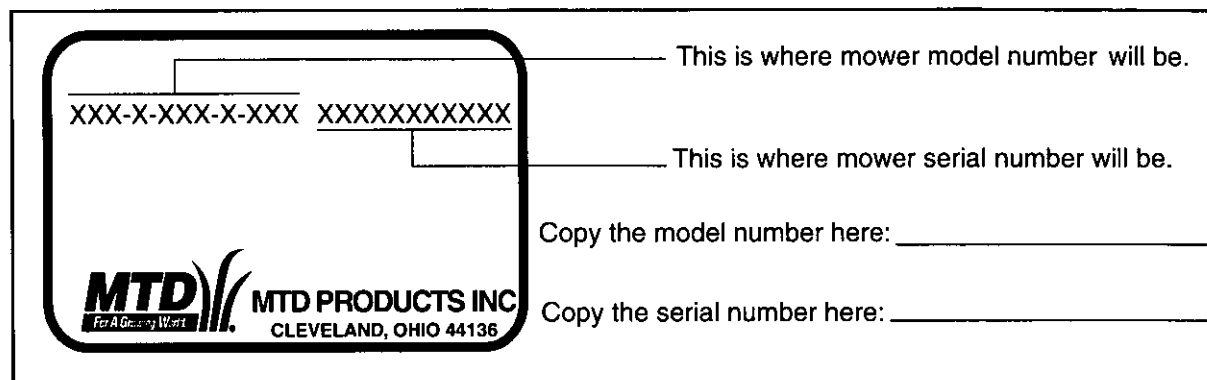

FIGURE 1
- The model plate will look like Figure 1.